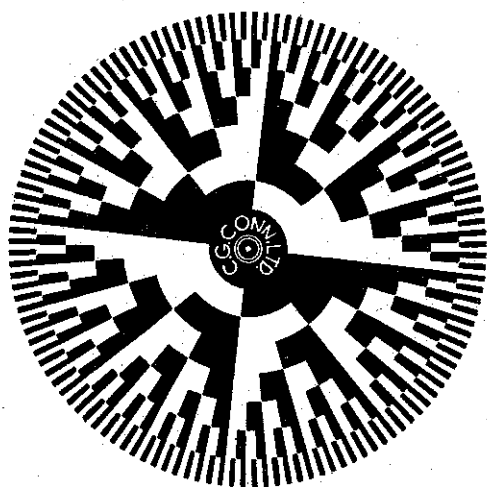

Figure 4—Stroboconn Scanning Disk.
*b.* In the Stroboconn Junior a neon discharge tube is made to flash in accordance with the pulsations (frequency) of the sound reaching the microphone. The light from this tube is used to illuminate a series of twelve rotating disks which have been imprinted with a pattern such as seen in Figure 4, consisting of seven rings of alternate light and dark segments that correspond roughly to the spokes of a wagon wheel. Each ring, progressing radially from the center, has exactly twice the number of segments as the preceding one, just as musical notes double their frequencies in progressing to successively higher octaves.